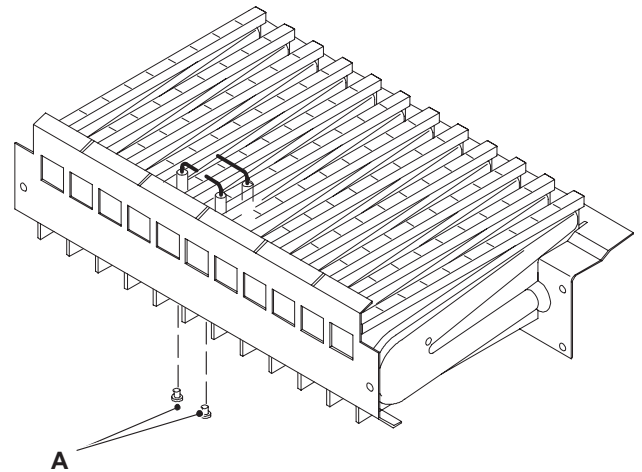

Figure 18.3
- 5 Unscrew the screws A (Figure 18.3) which hold the electrodes to the burner.